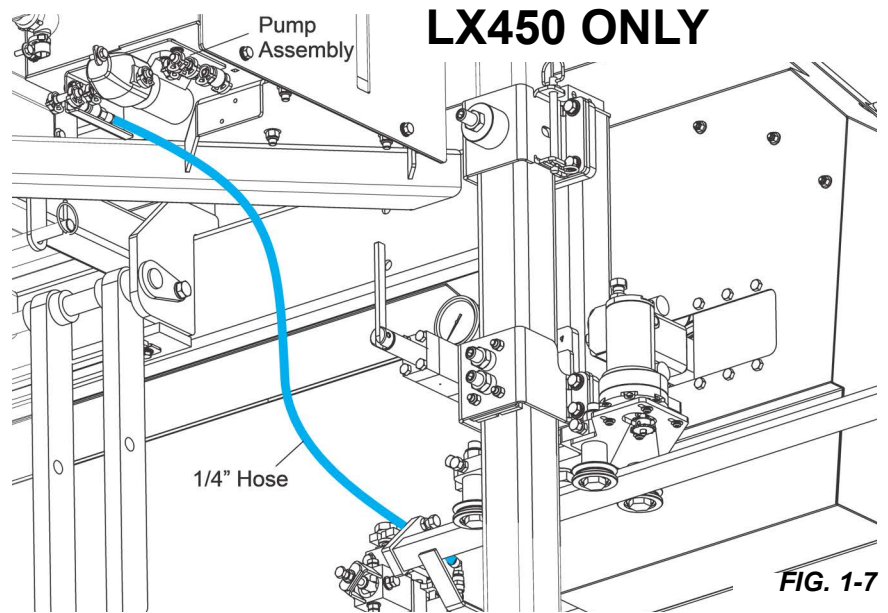

FIG. 1-7
3. Insert one end to the pump valve as shown in FIG. 1-7.